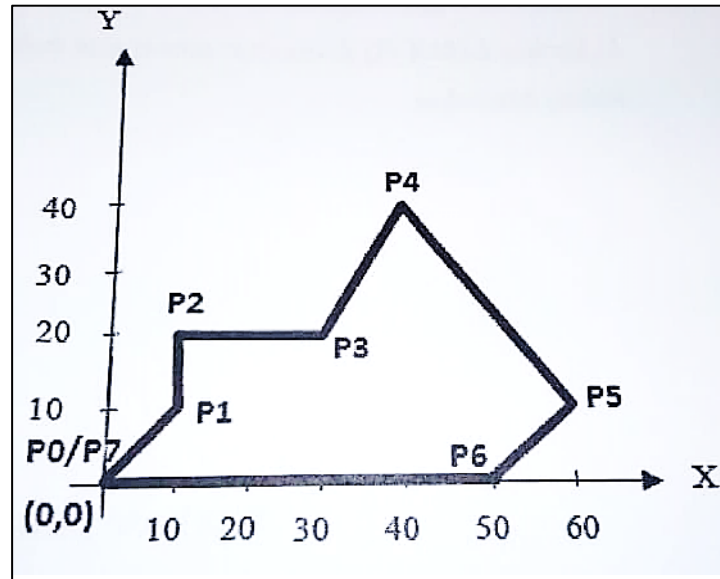

Figure 3c / Rajah 3c
- (c) Based on **Figure 3c**, write a CNC coordinate using the following system;